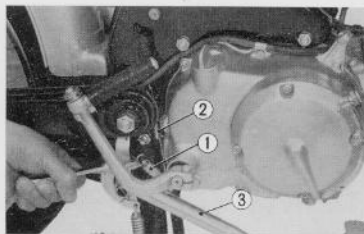

Fig. 4.60 Removing brake pedal and stop light springs
- (1) Remove the muffler. (For CL 90 and CL 90 L removal of muffler will not required.)
- (2) Remove the brake pedal spring ① and the stop light spring ② from the brake pedal ③. (Fig. 4.60)